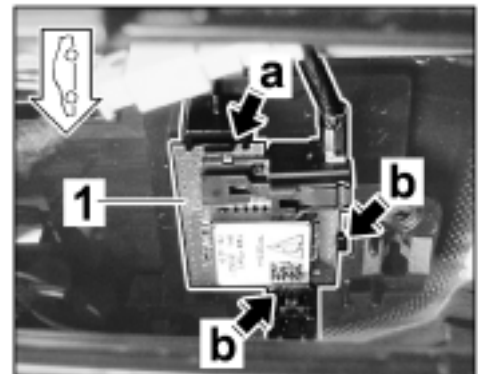

Figure 14
2.2 Insert GPS antenna ⇒ *Figure 14-1-* into the mounting ⇒ *Figure 14-arrow a-* and clip it in ⇒ *Figure 14-arrows b-*.